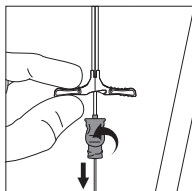

Figure 3
23. Holding sheath in place, remove guidewire and dilator as a unit (refer to Figure 3).